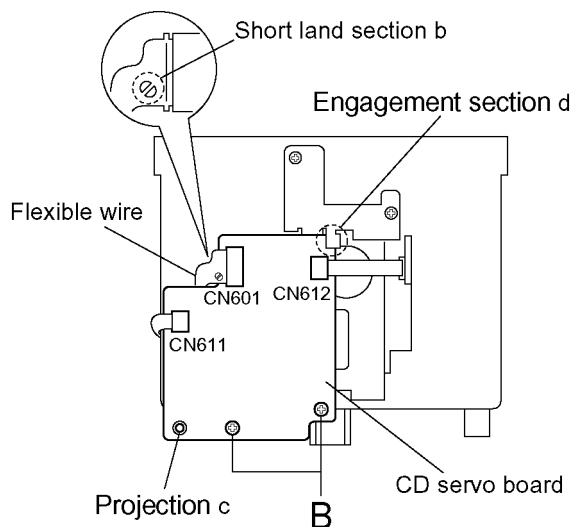

Fig.2-23
(See Fig. 2-23.)
(See Figs.2-23, 2-30 to 2-32.)
- (1) From the back side of the CD mechanism assembly, disconnect the card wire from connector CN612 on the CD servo board. (See Fig.2-23.)
- (2) From the top side of the CD mechanism assembly, remove the two screws **L** attaching the clamber base assembly.
- (3) Disconnect the wire from connector CN101 on the switch board while lifting the clamber base assembly slightly and remove the clamber base assembly.
- (4) Remove the three screws **M** attaching the roller holder assembly and take out the roller holder assembly.
- (5) Disconnect the wires from connectors CN103 and CN104 on the loading motor assembly.
- (6) Remove the belt of the loading motor assembly.
- (7) Remove the two screws **N** attaching the loading motor assembly and take out the loading motor assembly.